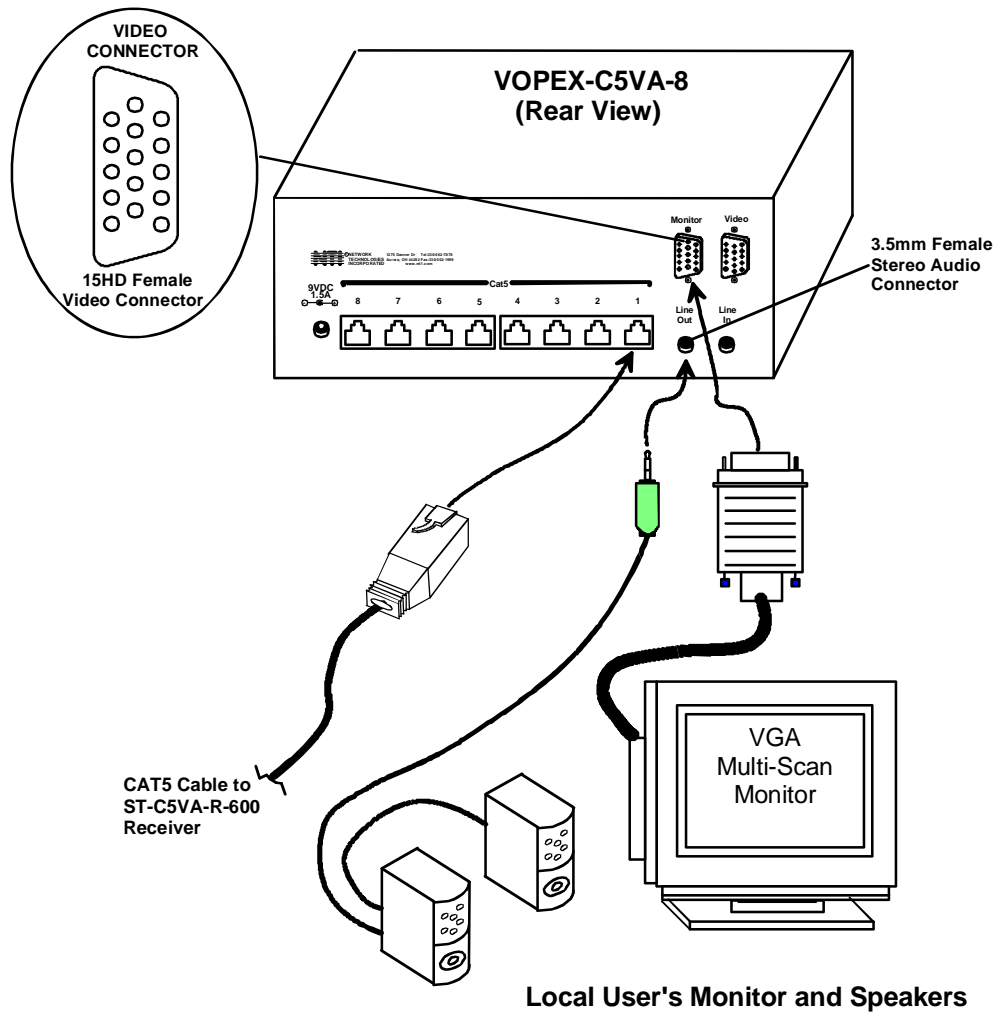

Figure 2- Connect Local User components and CAT5 cable to VOPEX-C5VA-8
2. Connect the local user to the VOPEX-C5VA-x (see Fig. 2)
3. Connect a CAT5 cable to any one of the "Cat5x" ports on the VOPEX-C5VA-x. (See Fig. 2) When properly inserted the cable end should snap into place.